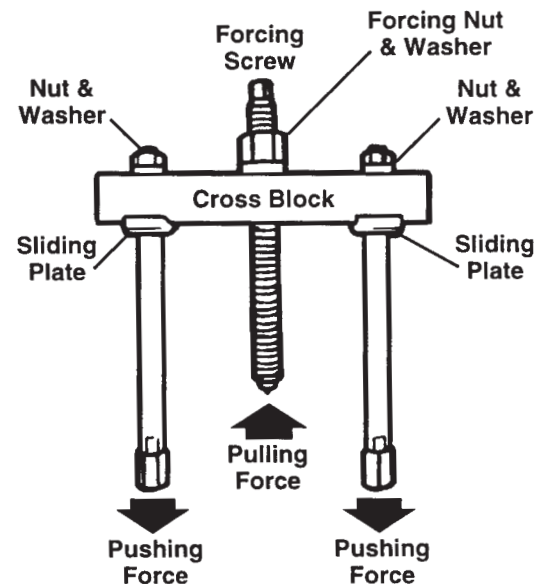

Figure 2
- a. Insert the forcing screw into the cross block with the forcing nut and washer assembled **above** the cross block. See Figure 2.
- b. Slide a leg assembly into each end of the cross block with the nuts and washers assembled **above** the cross block and the sliding plates assembled **below** the cross block. See Figure 2.